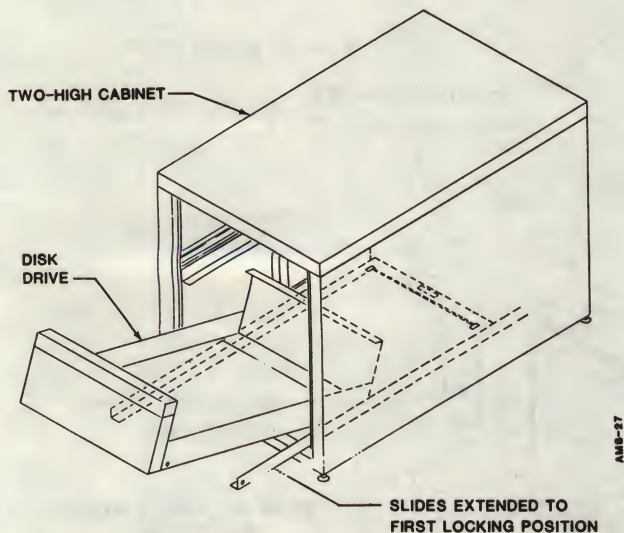

Figure 7-7. Disk Drive to Cabinet Installation
2. Extend the bottom drawer slides to the first locking position (see Figure 7-7) and then with two persons, insert the disk drive as deep into the cabinet as possible.